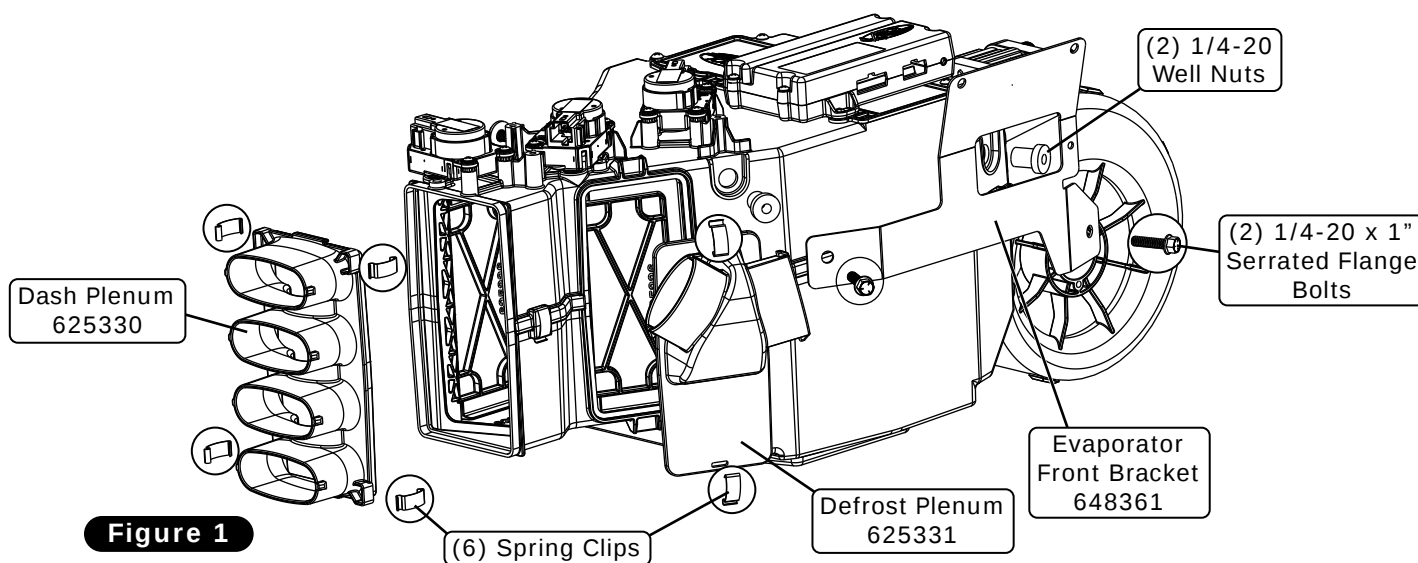

Figure 1
3. Install the dash and defrost plenums using (6) spring clips (See Figure 1, below).